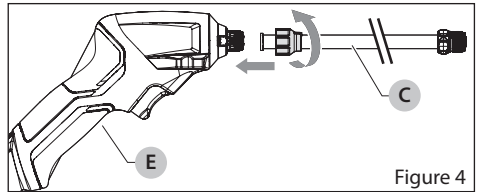

Figure 4
Install the wand extension (C) onto the power wand tool (E). Turn clockwise to tighten. See Figure 4.